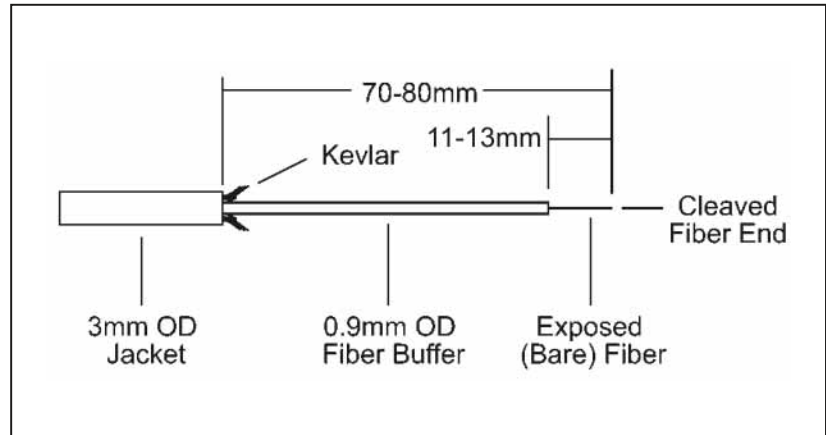

Figure 3. Bare fiber preparation of 3 mm OD jacketed fiber for bare fiber adaptors. (900 micron OD tight buffer version for this configuration).
4. Cleave the fiber, leaving approximately 11 mm to 13 mm of exposed fiber. (See Figure 3).